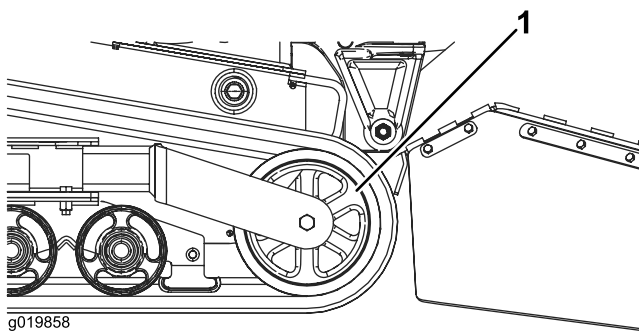

**Figure 49**
5. Push the tensioning wheel rearward as far as it will go (Figure 49).
7. When the track is off of the tensioning wheel, remove it from the machine (Figure 49).